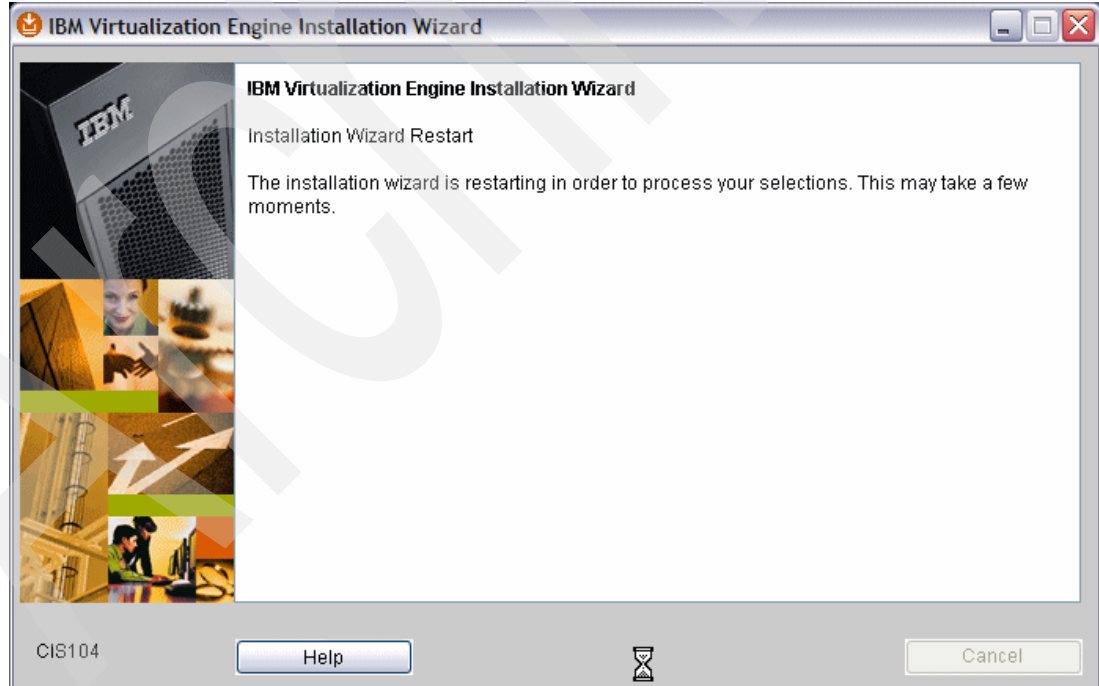

Figure 5-14 Installation Wizard Restart window
9. An Installation Wizard Restart window (Figure 5-14) opens, wait a few moments.